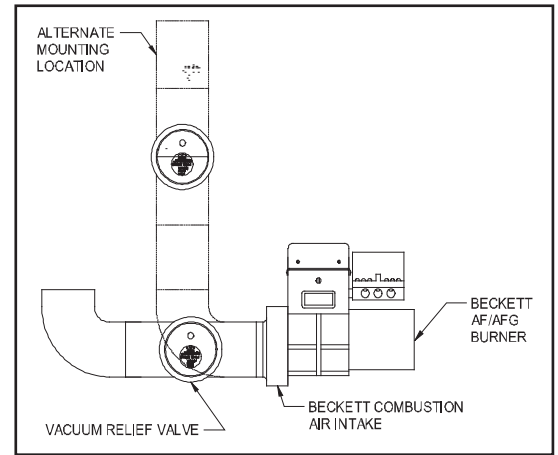

Figure 5
1. Mount VRV tee assembly or 90° elbow onto the combustion air intake inlet. Fasten using three (3) sheet metal screws on all joints. (See Figure 5)